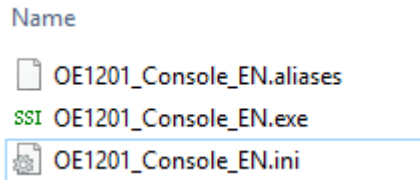

Fig.32 “OE1201\_Console”File folder
- 2) Double click the file “OE1201\_Console\_EN.exe” in Fig. 32.